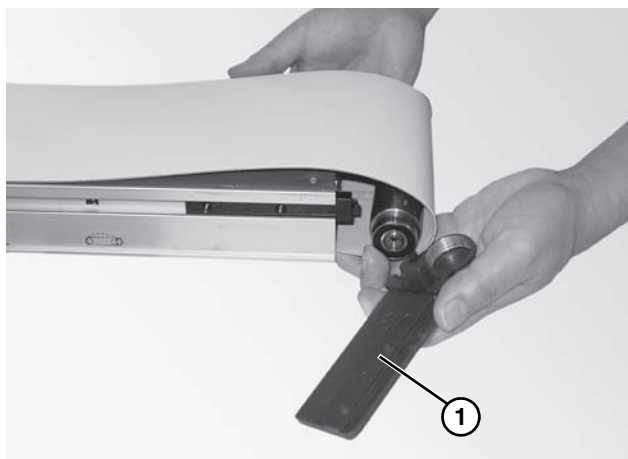

Figure 53
2. Remove the head plate (**Figure 53, item 1**) from the conveyor frame.